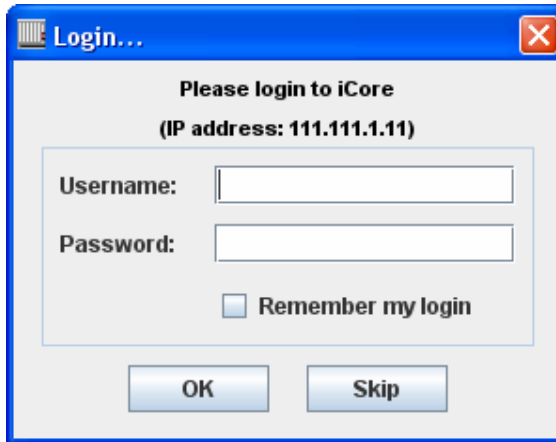

Figure 11 – iCore Login Screen
- From the iCore Login screen as shown in Figure 11 below, enter a Username and Password, and then press the “OK” button.